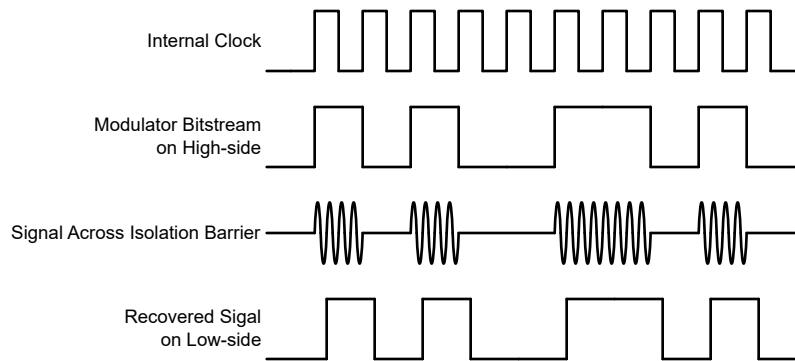

Figure 7-1. OOK-Based Modulation Scheme
The AMC1351-Q1 uses an on-off keying (OOK) modulation scheme, as shown in Figure 7-1, to transmit the modulator output bitstream across the SiO_2 -based isolation barrier. The transmit driver (TX) shown in the Functional Block Diagram transmits an internally-generated, high-frequency carrier across the isolation barrier to represent a digital *one* and does not send a signal to represent a digital *zero*. The nominal frequency of the carrier used inside the AMC1351-Q1 is 480 MHz.